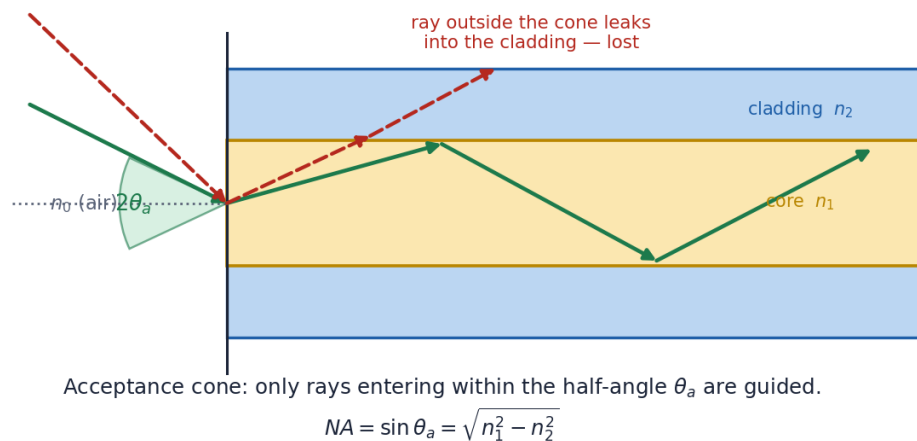

Figure 1.11 — The acceptance angle and the acceptance cone.
- Always draw Figure 1.11 with the derivation — the geometry step $\phi = 90^\circ - \theta_1$ is impossible to justify without it.